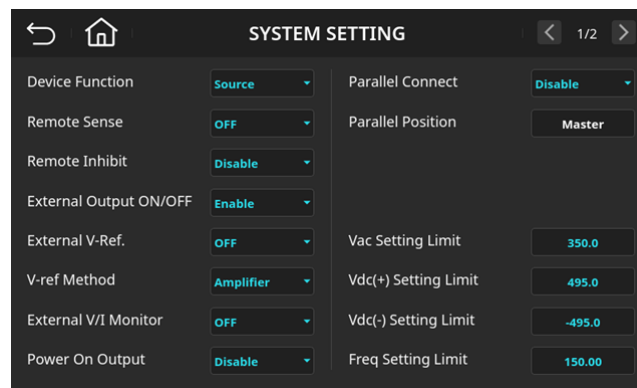

Figure 6-5 System Function Setting Page (External Output ON/OFF = Enable)
2. Select "Enable" to activate the remote output control function, as shown in Figure 6-5.